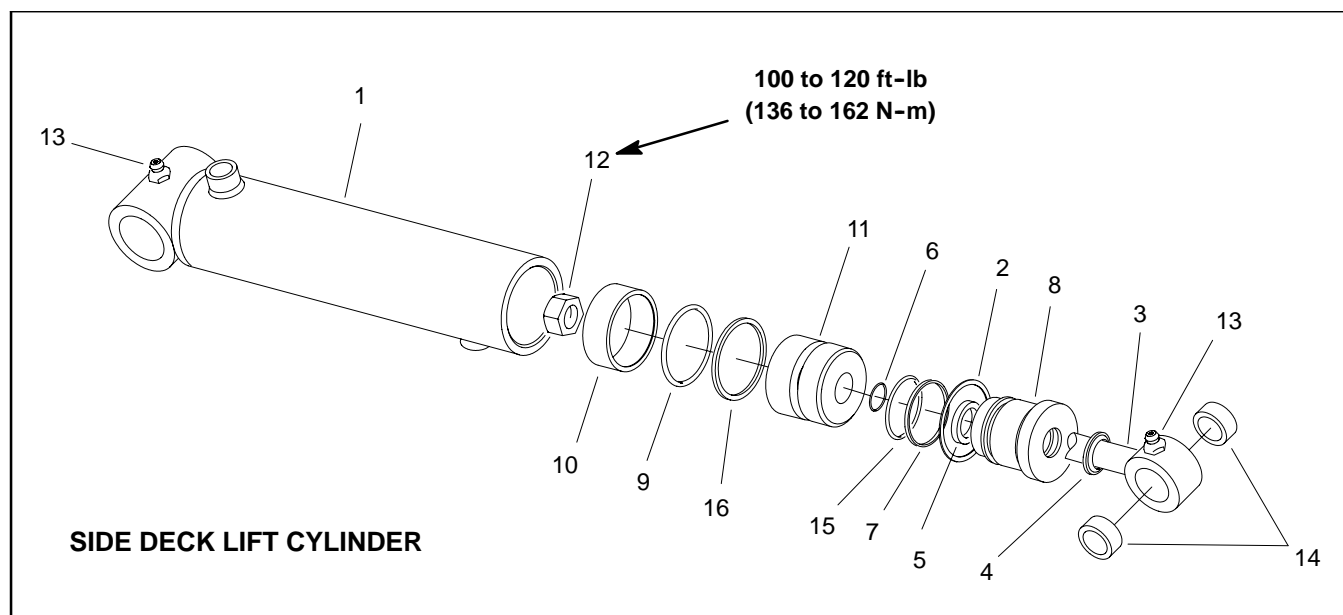
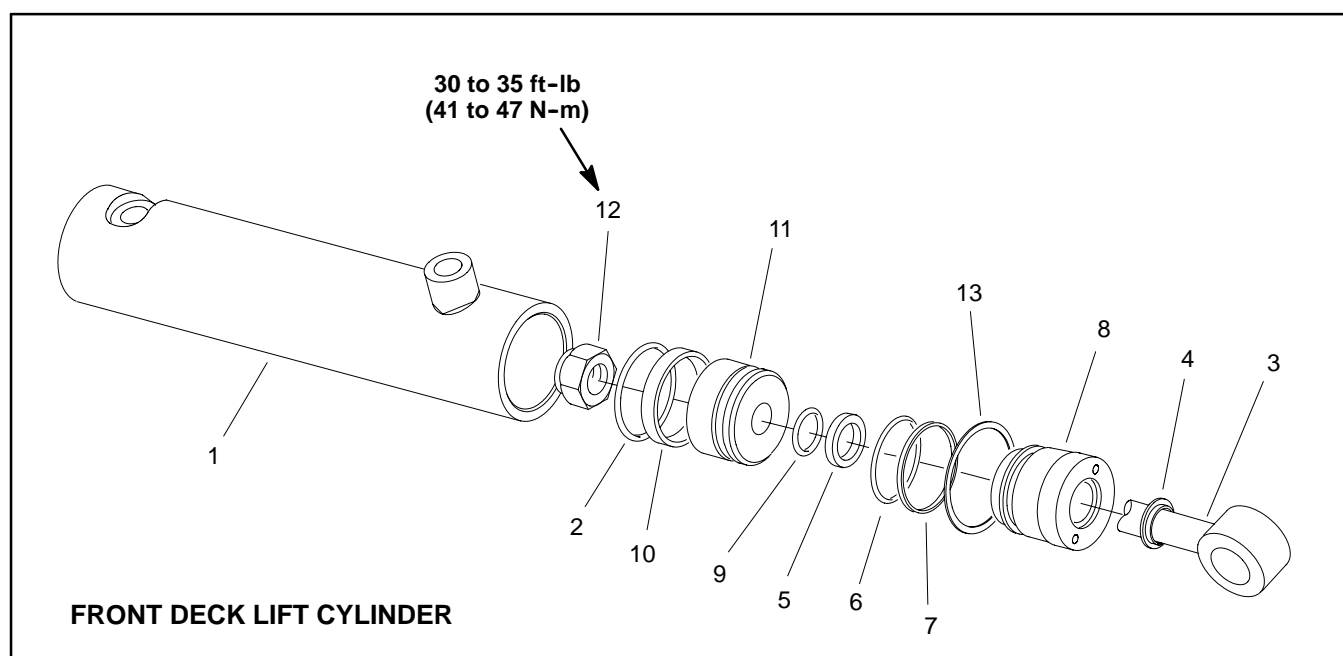

Figure 115
Figure 116
**Disassembly (Figs. 115 and 116)**
**Assembly (Figs. 115 and 116)**
C. Torque lock nut to specification in Figure 115 (side deck cylinder) or Figure 116 (front deck cylinder).